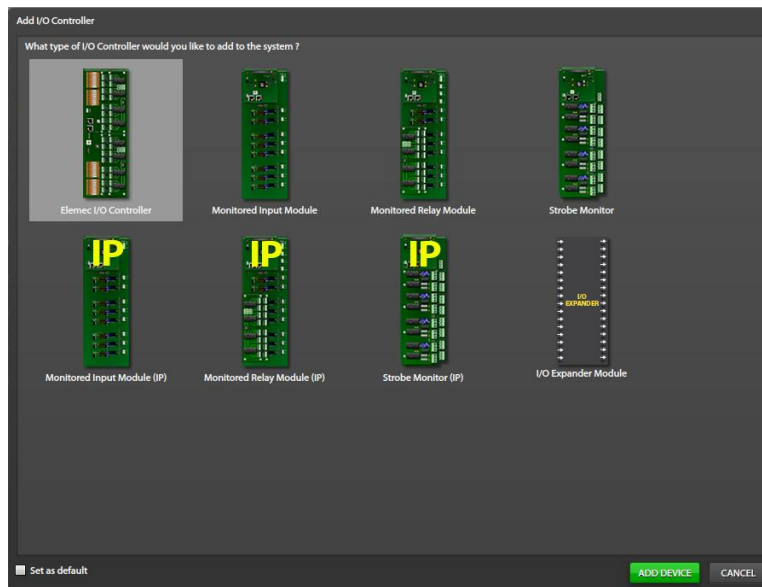

Figure 55. Add I/O Controller
2. Select one of the seven types of I/O controller on the ADD I/O CONTROLLER screen (see Figure 55).